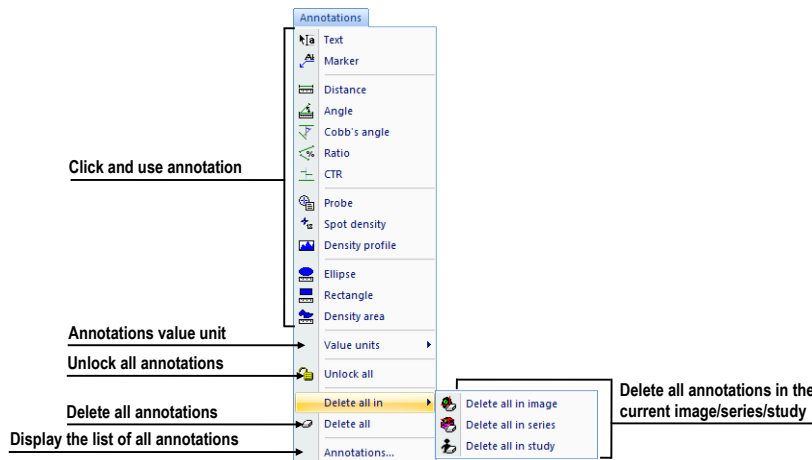

Figure 43 – Annotations menu
- **Annotations** – functions for annotation management in TomoCon. Creating various types of annotation and measurements in the current view and removing and editing selected annotations (see Figure 43).